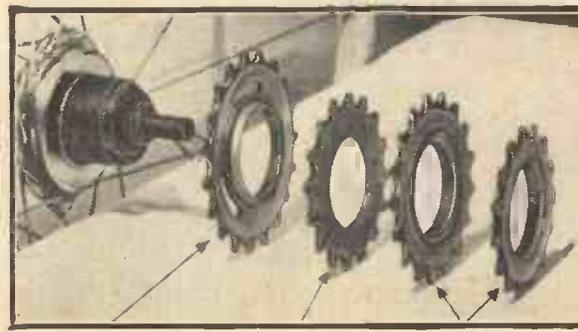

Fig. 1.—Arrangement of sprockets.
**T**HOSE cyclists who have a unit hub, which is a hub with the free wheel incorporated in the hub itself and on which ordinary fixed sprockets are fitted to form a variable gear, may be interested in a method of obtaining four gears instead of the usual three. This can also be applied to some forms of multi-speed block, where a long thread is provided on which interchangeable sprockets are screwed. With the unit hub, instead of screwing on three sprockets with the flanges pointing inwards in the usual way, the procedure shown at Fig. 1 is used. The first sprocket, or bottom gear, is screwed on in reverse with